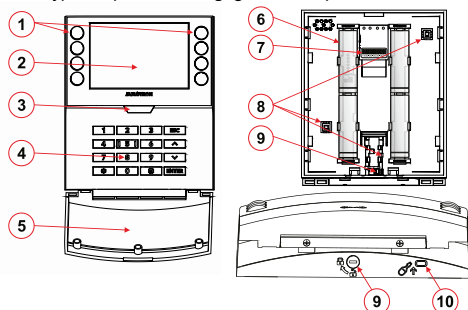

Figure 1: Description of the internal and external parts of the product
1. On the underside of the keypad, turn the locking mechanism (9) anticlockwise 90° until the groove points to the symbol . Then use a screwdriver to release the tab (10) while sliding the keypad up. The keypad can then be easily removed from the mounting pad.
3. Mount the rear part of the keypad to a flat wall using 4 screws. (To connect an external power supply or magnetic contact, use the terminals on the back of the keypad, see Figure 1. See the connection description in the paragraphs the Alternative Power Supply and Installation of a magnetic contact by scanning the QR code below.)
4. Insert 1.5V AA alkaline batteries into the battery holder (6), mind the correct polarity!
5. First attach the bottom edge of the keypad to the mounting pad (rear part) of housing (align the bottom sides). Then slide the keypad downwards, until you hear the click of the tab (10). This will secure the keypad against falling out of the installation pad. Then turn the locking mechanism (9) clockwise 90° to the position where the groove points to the  symbol. This locks the keypad in place and engages the tamper contact.